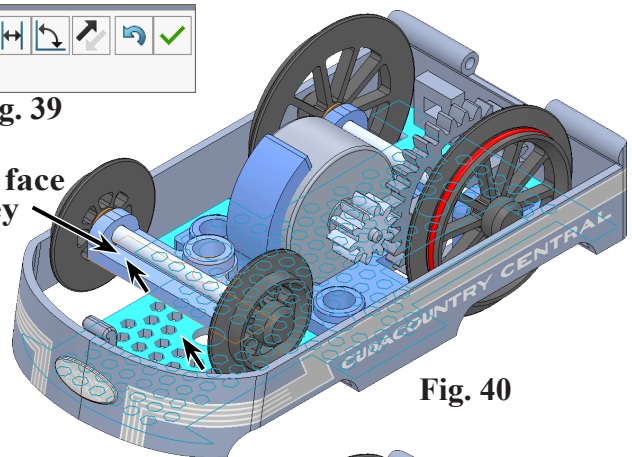

Fig. 40
Step 4. Click **bottom face of Chassis** and **hide top face of Bogie Bracket**, click **bottom face**, Fig. 40.